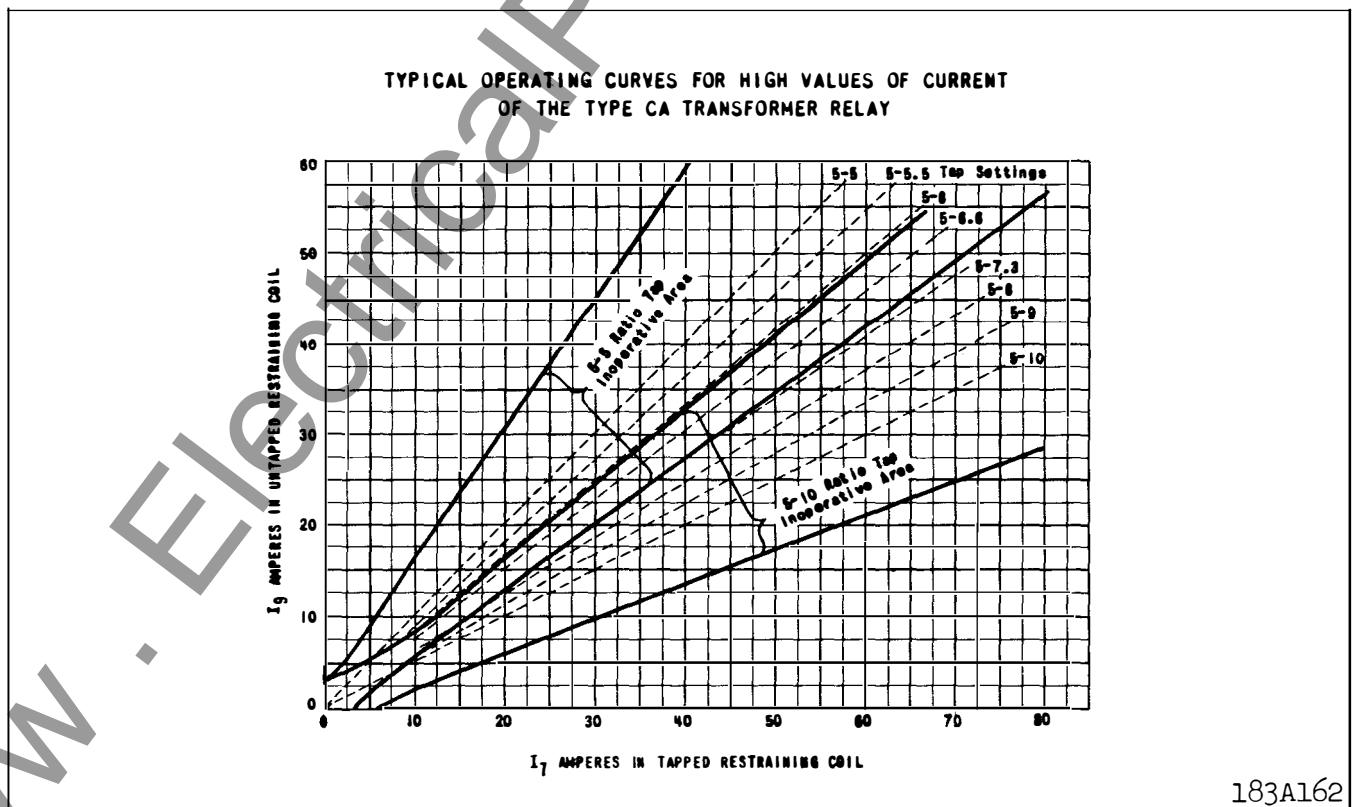
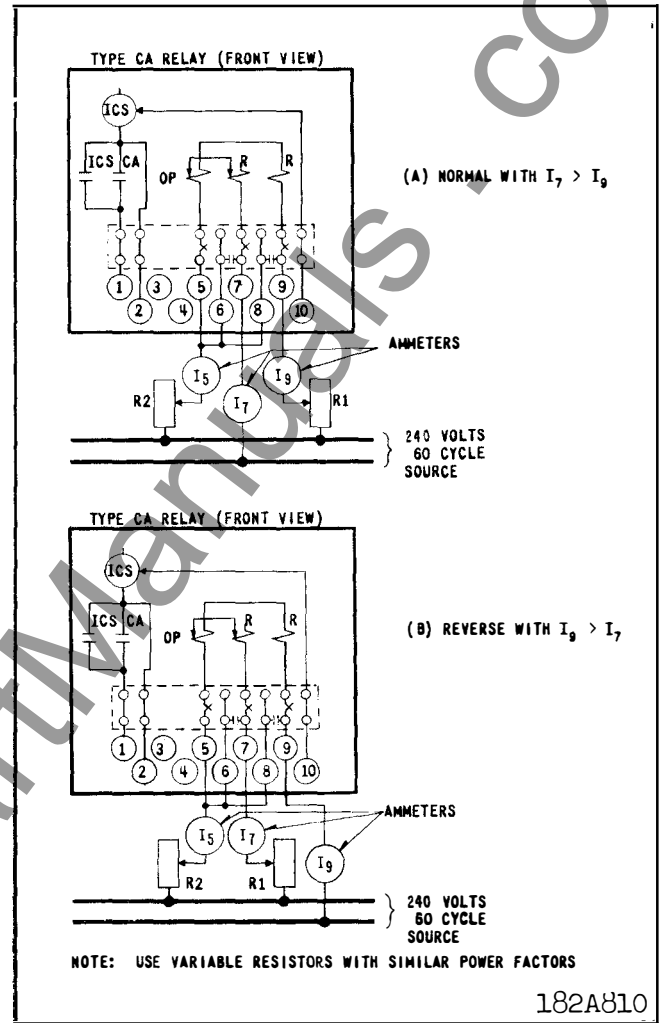

Fig. 4. Typical Operating Curves for High Values of Current.
Fig. 11. Diagram of Test Connections for the Type CA Transformer Relay in the Type FT21 Case.
As an example of the degree of accuracy of the formula consider the point  $I_7 = 43.5$ , and  $I_g = 30$ , read from the lower curve for the 5-5 tap, Fig. 4. Applying the formula, equation (2), the calculated value of  $I_7$  is found to be 45 amperes, which is fairly close to the curve value,  $I_7 = 43.5$ .
To check the polarity of the restraining coils, adjust the spiral spring for zero tension by turning the spring adjuster. Then with the relay connected as shown in Fig. 11 pass 10 amperes through the two restraining coils with the lead to the operating coil disconnected. This should produce a torque in the contact opening direction. Similarly, 5 amperes flowing in one restraining coil and the operating coil should produce a positive contact closing torque.
position of the stationary contacts, so that the moving contact travel is 7/32 inch, and the stationary contacts make at exactly the same time. Adjust the relay for minimum trip by passing current through one restraining coil and the operating coil in series as shown in Fig. 11 with the lead to the other restraining coil disconnected. Tighten the spiral spring by means of the spring adjuster until the relay contacts just close at 2.75 amperes flowing through the untapped restraining coil and the operating coil with the relay set on the 5-5 tap.
In checking the percentage sensitivity, set the rheostat  $R_1$  of Fig. 11 for 20 amps. restraining current, and then vary the operating current by adjusting the rheostat,  $R_2$ , until the relay just trips. This procedure may be followed for both the normal and reverse connections, and the results compared with Fig. 4 which represents typical curves. The rheostats used in the operating and restraining circuits should be of low inductance and have the same power factor, so that the currents will be substantially in phase. Since the temperature of the windings affect the relay characteristic, the final reading for any curve points taken at high currents should be taken with the relay cool. If these precautions are taken, a good check of the operating curves will be obtained. However, it should be remembered that individual relays will vary somewhat from the typical curves shown in